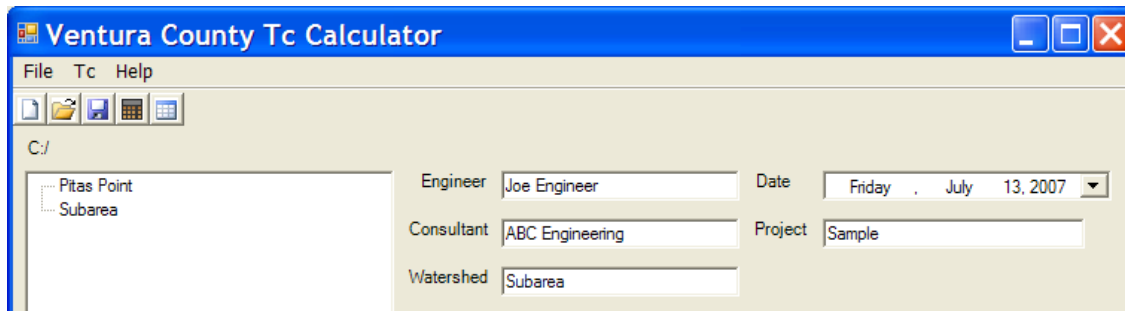

Figure 6-6: Watershed/Project information
2. Right click in the project explorer (the white box on the left hand side of the window) and select *New Watershed*. See Figure 6-6.